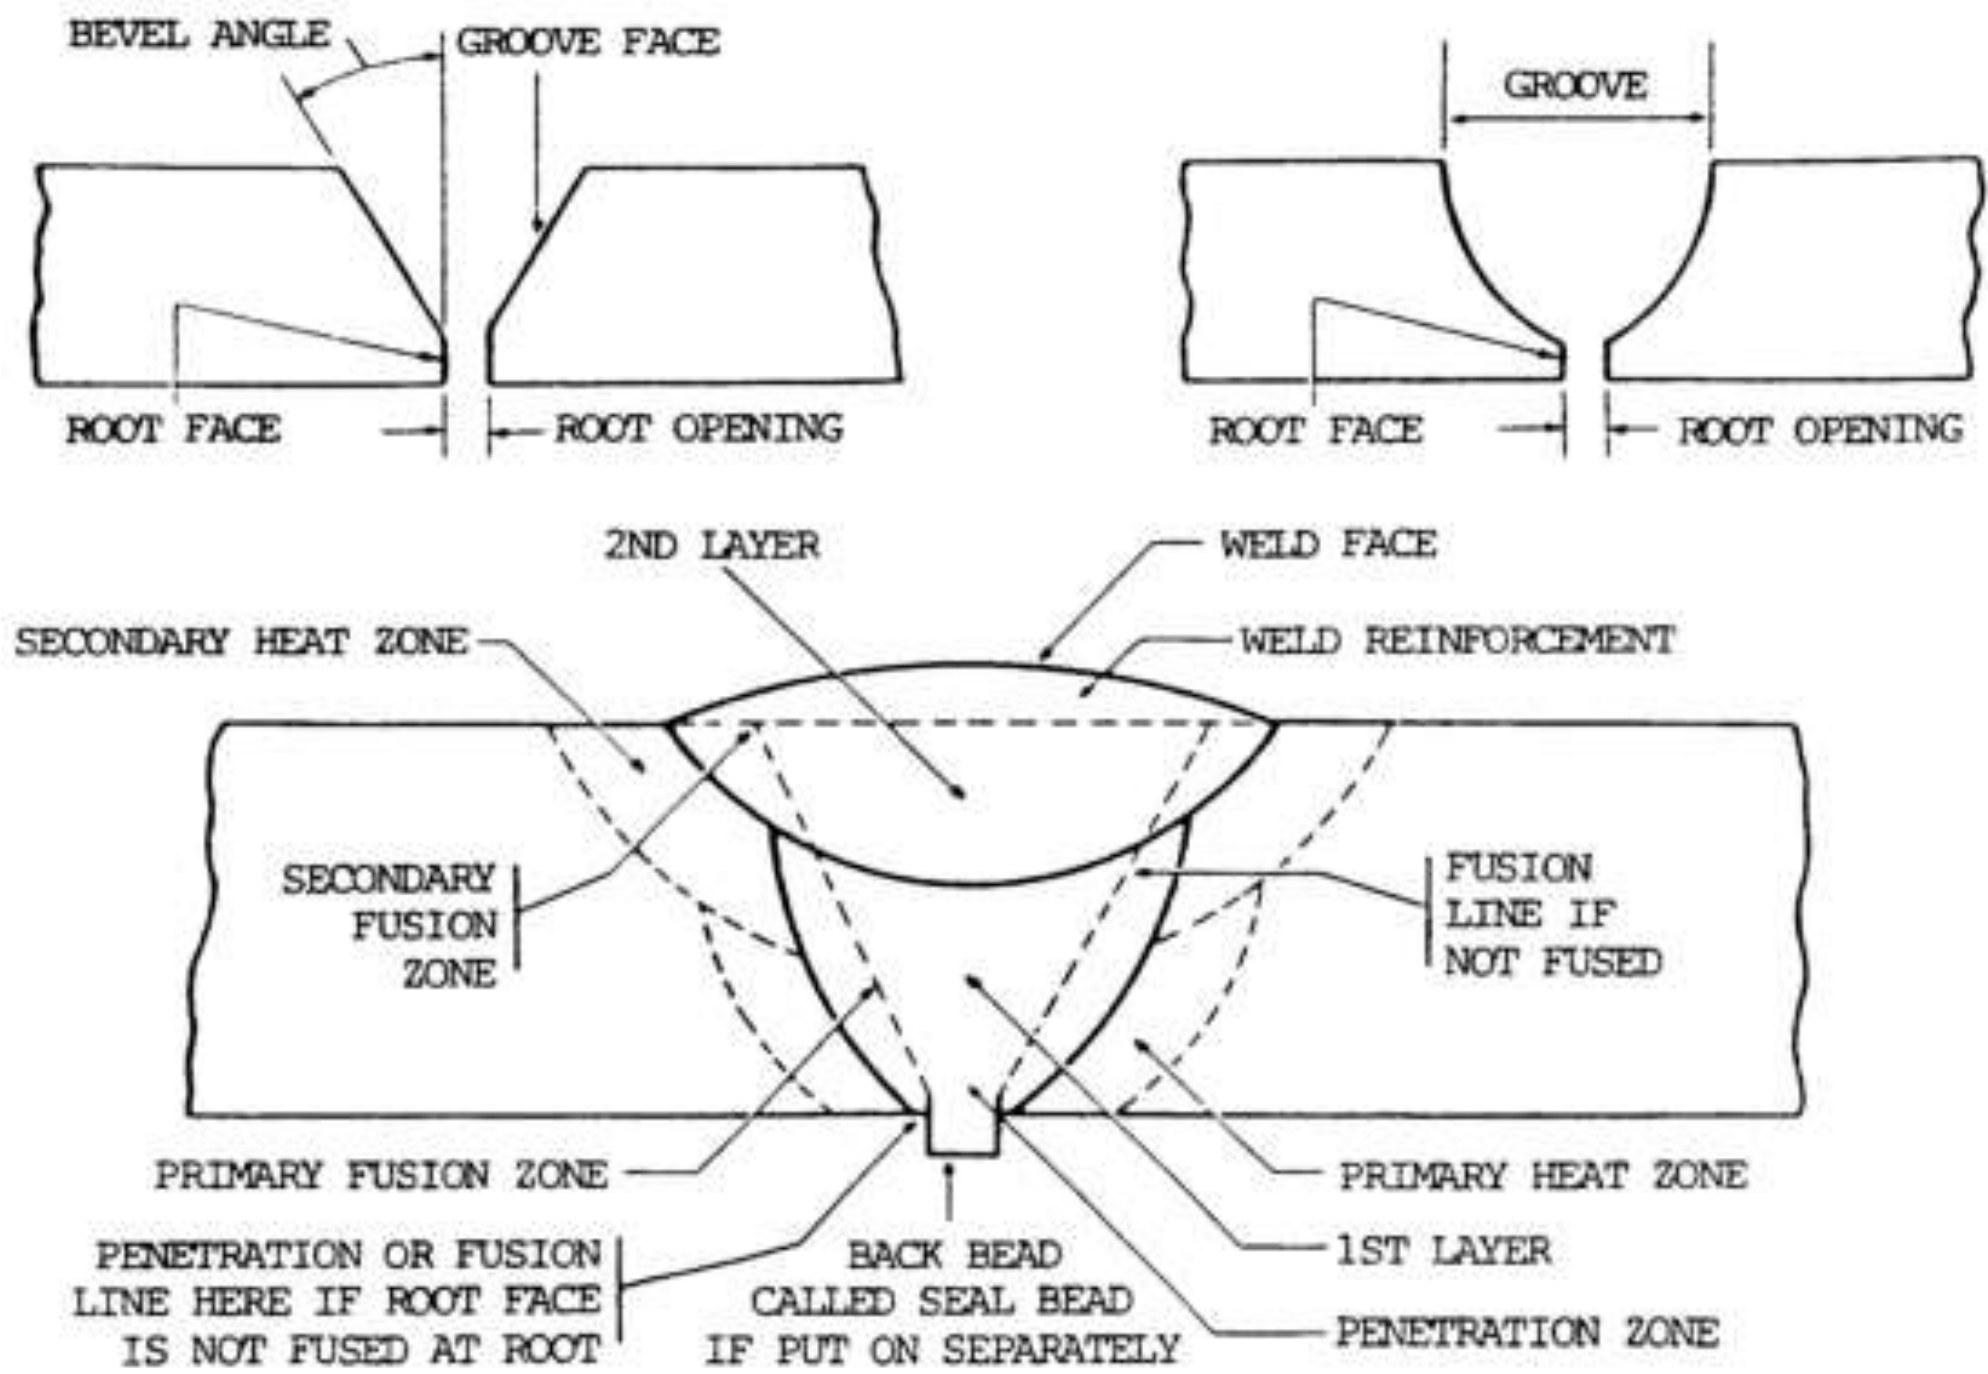

Figure 6-14. Heat affected zones in a multipass weld.
- . The nomenclature of the weld, the **zones affected by the welding heat** when a butt weld is made by more than one pass or layer, and the nomenclature applying to the grooves used in butt welding are shown in figure 6-14.
The nomenclature of the weld, the zones affected by the welding heat when a butt weld is made by more than one pass or layer, and the nomenclature applying to the grooves used in butt welding are shown in figure 6-14.